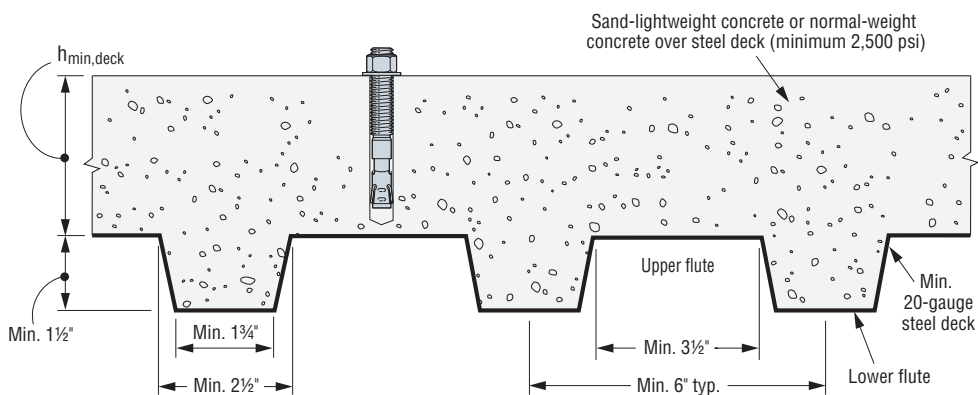

Figure 1
1. Installation must comply with the table on p. 113 and Figure 1 below.